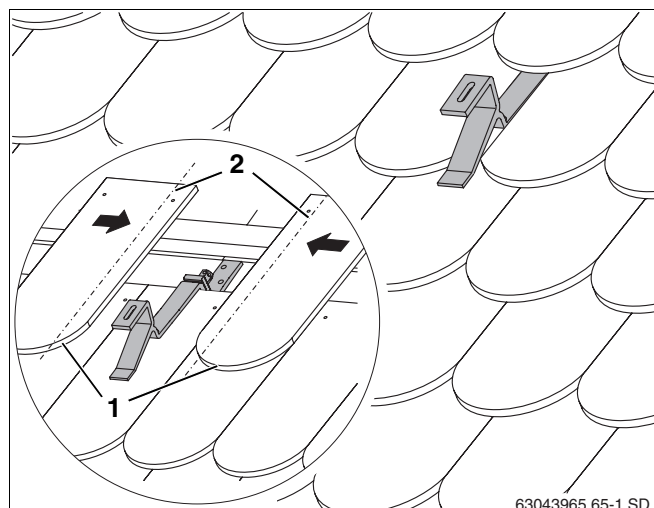

Fig. 20 Roof hook with covered roof
- ▶ Cut the adjacent crown tiles (Fig. 20, **Item 1**) to size (dashed line, Fig. 20, **Item 2**).